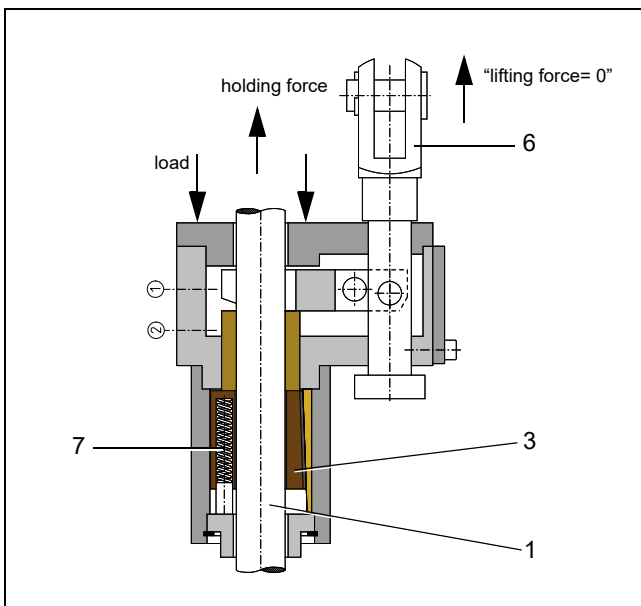

Fig. 3: Safety Catcher KRM having caught the load
The action of the springs then causes the clamping jaws (3), Fig. 3 to clamp the shaft (1), Fig. 3 firmly, thus securing the load.
The full clamping force is built up by as the Safety Catcher KRM together with the falling load is moving along the shaft. Due to the self-intensifying static friction at the shaft, the clamping jaws (3), Fig. 3 are drawn into the clamping position at their stops (7), Fig. 3 after having moved the distance "e" (approx. 5 to 15 mm, depending on the design). This movement is illustrated as phase A in the force-path diagram.